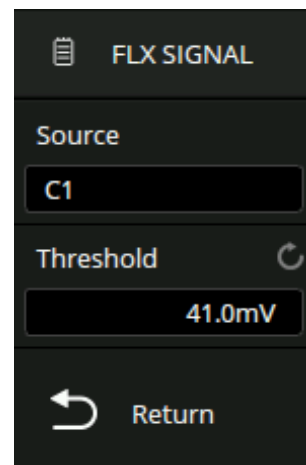

Figure 10.27
1. The **FLX SIGNAL** menu will be displayed. (Figure 10.27)